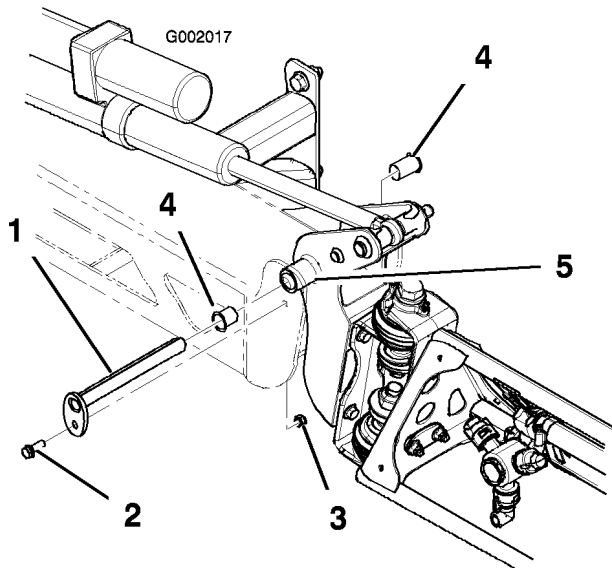

Figure 47
3. With the weight of the boom supported, remove the bolt and nut securing the pivot pin to the boom assembly (Figure 47). Remove the pivot pin.
5. Remove and inspect the nylon bushings from the front and back sides of the pivot bracket (Figure 47). Replace any damaged bushings.
7. Install the boom and pivot bracket assembly into the center frame, aligning the openings (Figure 47).